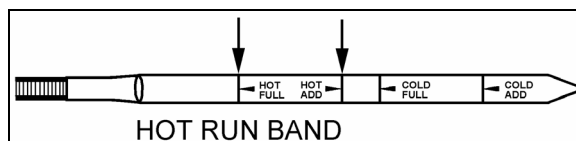

FIGURE 5: HOT CHECK
2. Park the vehicle on a level surface and shift to Neutral (N). Apply the parking brake and allow the engine to idle (500 - 800 rpm).
5. If the level **is not** within this band, add or drain fluid as necessary to bring the level within the HOT RUN band. (Fig. 5).